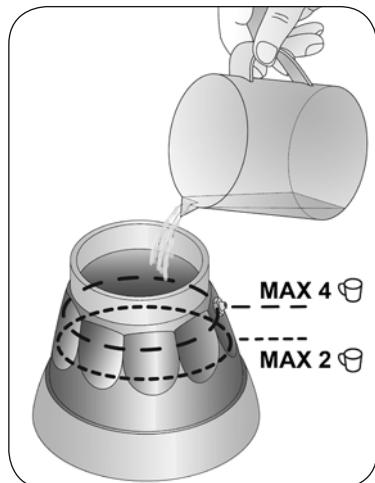
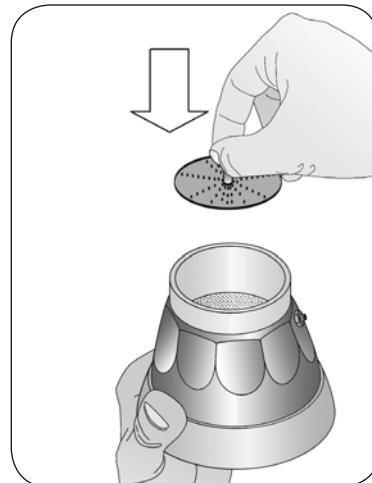

Fig. 2
Fig. 3
Make sure the machine is cold. Unscrew the machine by holding the carafe (C) with one hand and by turning the boiler (G) clockwise with the other. Remove the funnel filter (F) and fill the boiler with water until the safety valve (L) seen inside the boiler is reached (Fig. 2). Do not go past the safety valve.
Fill the boiler (G) halfway with water (Fig. 2), remaining under the safety valve (L). Place the four-cup funnel filter (F) inside the boiler. To prepare two-cup coffee, put the adaptor disc (K) inside the four-cup funnel filter (Fig. 3). Follow the instructions in the paragraph "How to make coffee".
| | Too much water has been put inside. | Repeat the operation by putting the right amount of water into the boiler. Up to the safety valve if the four cups of coffee funnel filter is used. Beneath the safety valve if the two cups of coffee adaptor disc is used (Fig. 2). |